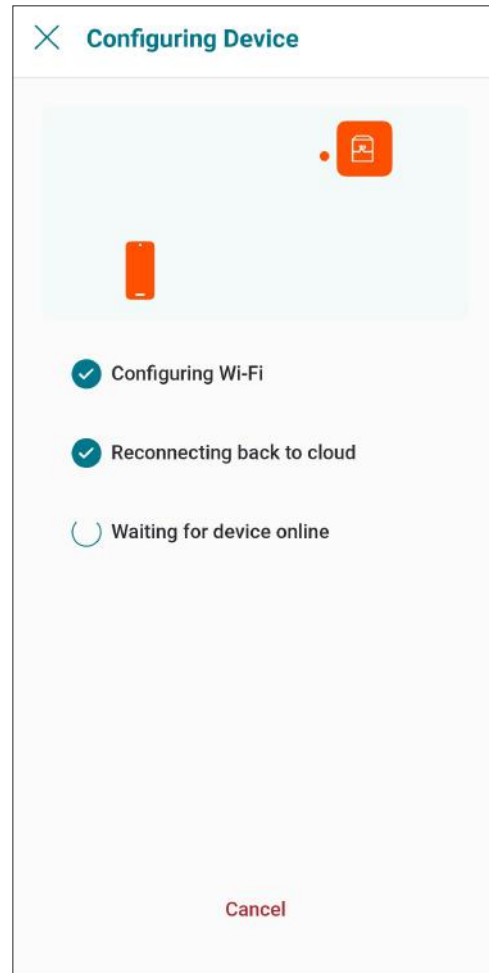

Figure 80. Configuring Device
- Raymote app will provide the Wi-Fi credentials to your unit. This process may take a few seconds. See Figure 80.